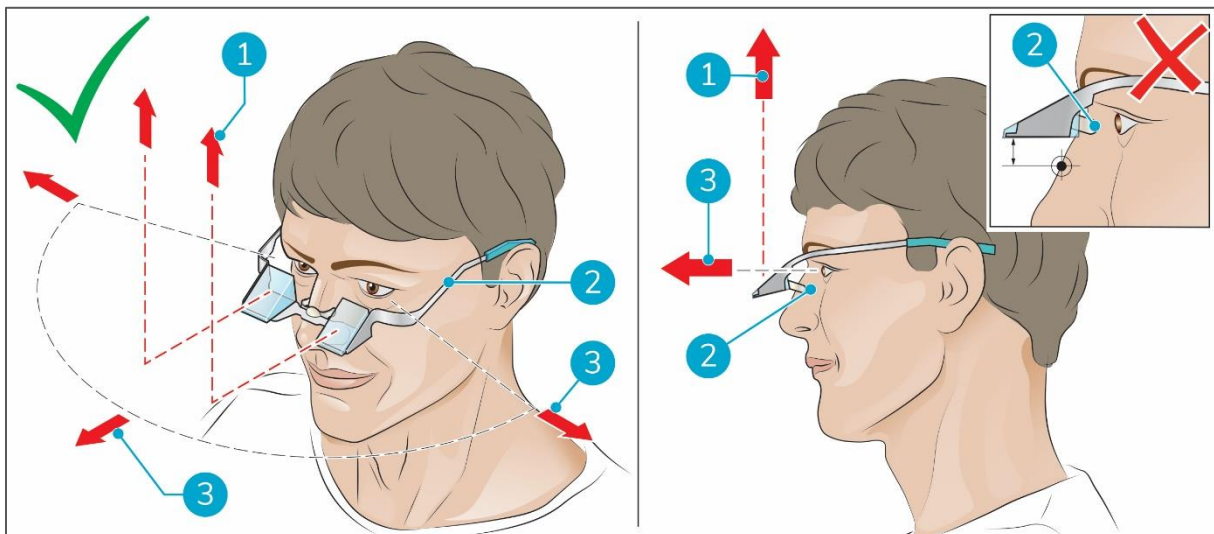

Figure 15
1. Stand still and look straight ahead to obtain the best upward vision (Figure 15, pos. 3, 1).
2. Do not position the i-glasses too high on the bridge of your nose. With the correct position (Figure 15, pos. 2) you are able to look fully into or out of the prisms. This enables you to switch trouble free between upward and normal panoramic vision.